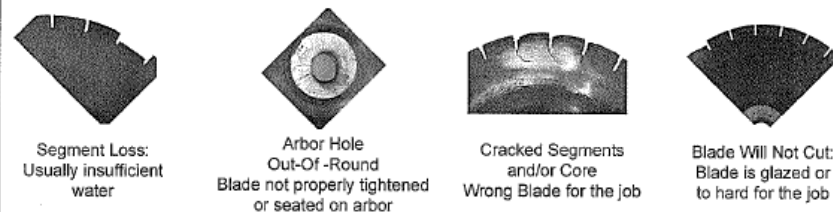

Figure 5
- Check blade for damage (see Figure 5, below).